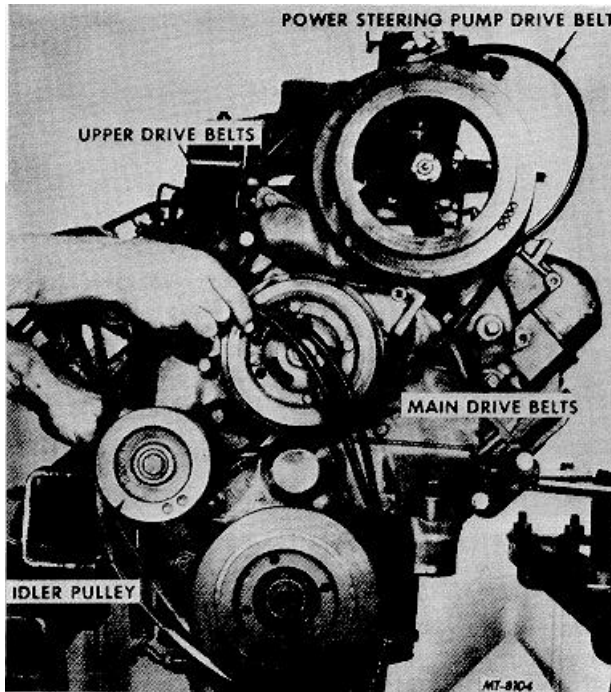

Fig. 25 Removing Drive Belts
11. Push idler pulley toward center of engine and remove main drive belts (Figure 25). Also remove accessory drive belts.